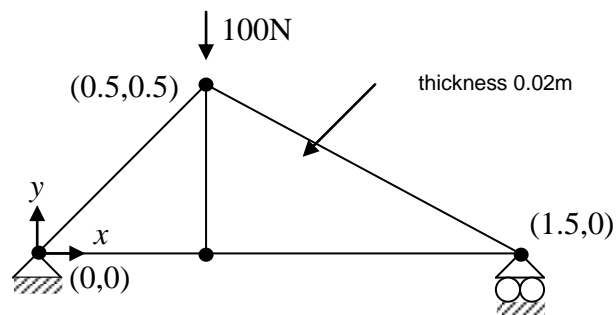

Figure 2.
3. (i) For the problem and two element mesh design shown in Figure 2, number the nodes and elements and write out the data file for *FINEL*.